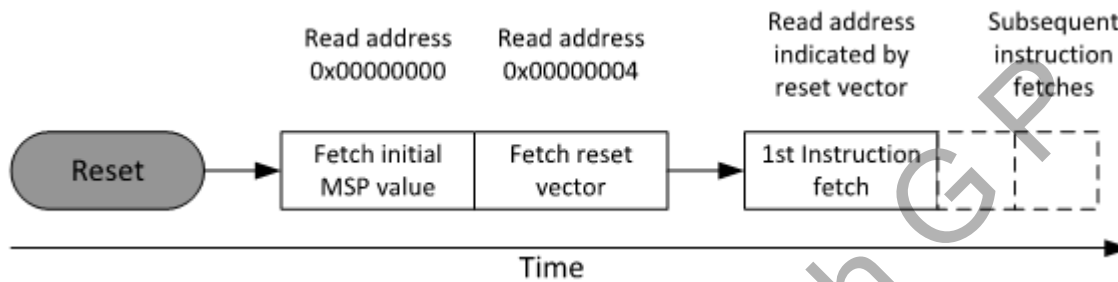

Figure 28: Reset sequence
- After reset and before the processor starts executing the program, the Cortex-M processors read the first two words from the memory as shown in figure 28.